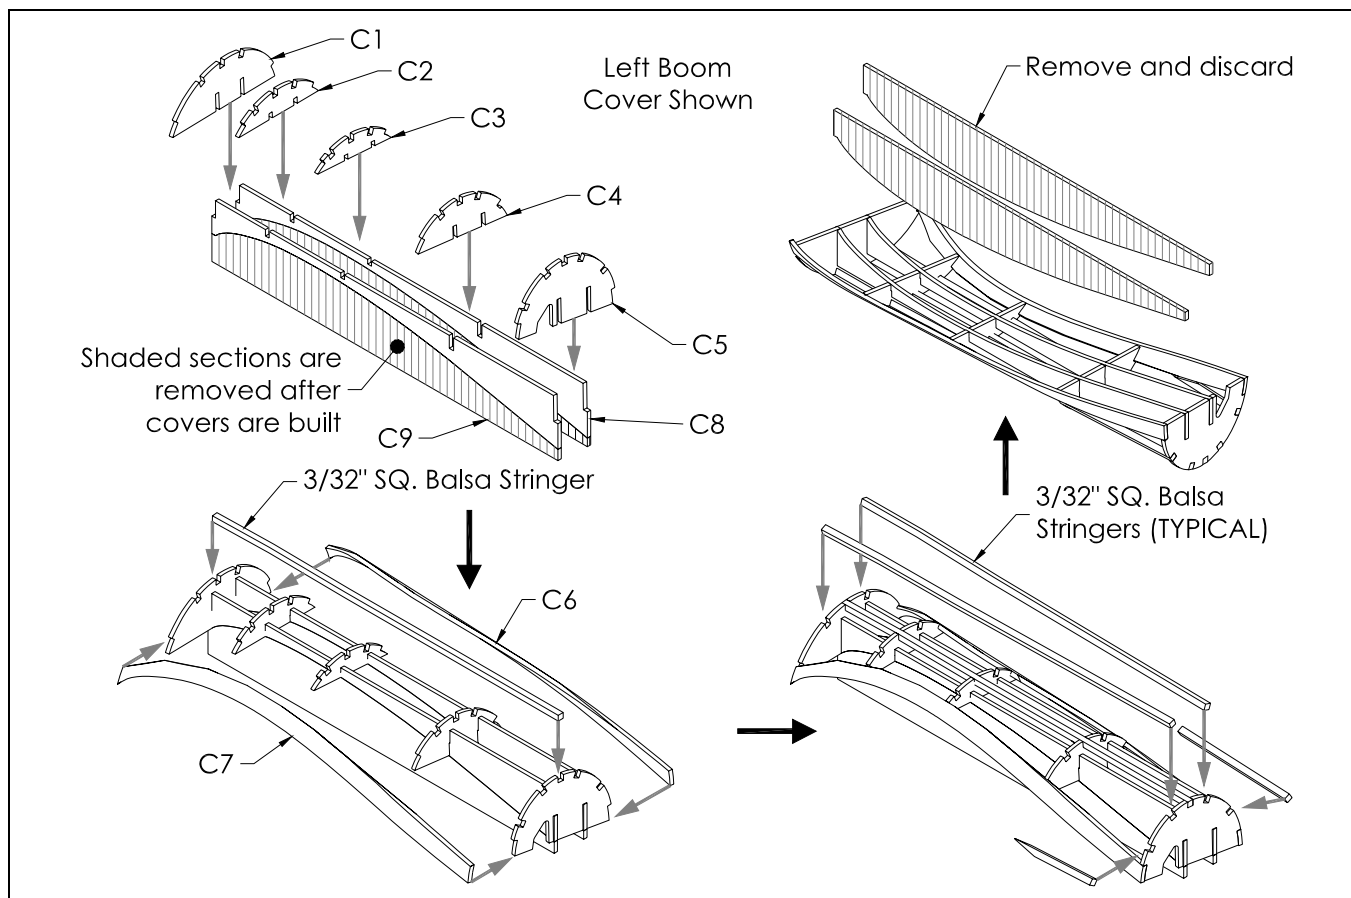

Figure 9
- ❑ Glue **C1**, **C2**, **C3**, **C4**, and **C5** to **C8** and **C9** as illustrated in Figure 9.